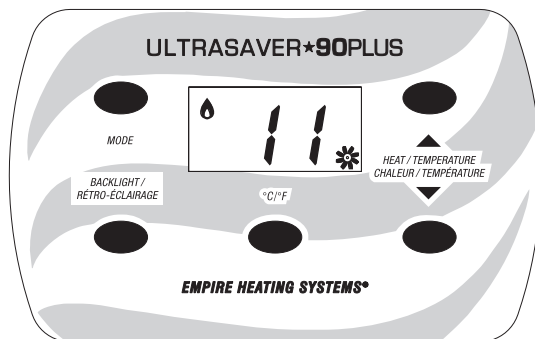

Figure 62
- After 45 to 70 seconds, the circulating air blower will activate. The circulating air blower speed will be set by the heat level and will display on the Display Panel. See Figure 62.